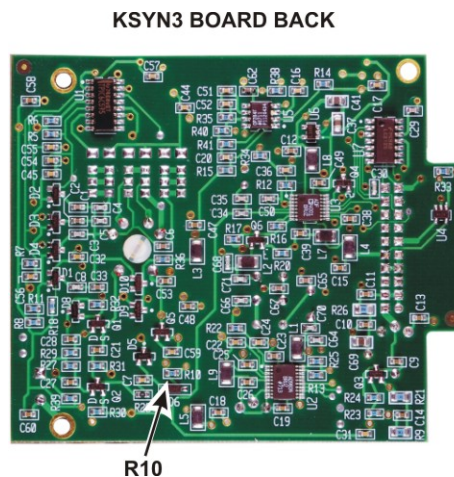

Figure 4. Locating R10.
- Use your DMM to check the resistance across R10 on the back of the KSYN3 board (see Figure 4). If the resistance across R10 is near 56 K ohms, skip the next step; you do not need to replace R10.